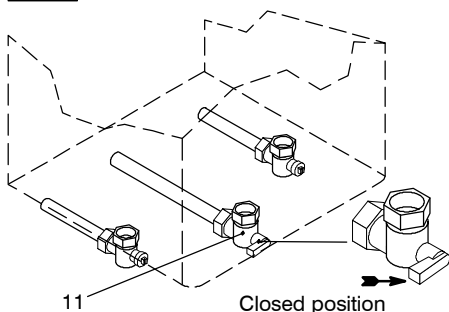

Fig. 8.1
- 1 Check that the gas cock (11 in Fig. 8.1) fitted under the boiler is turned off and the appliance is switched off at the mains isolating spur.